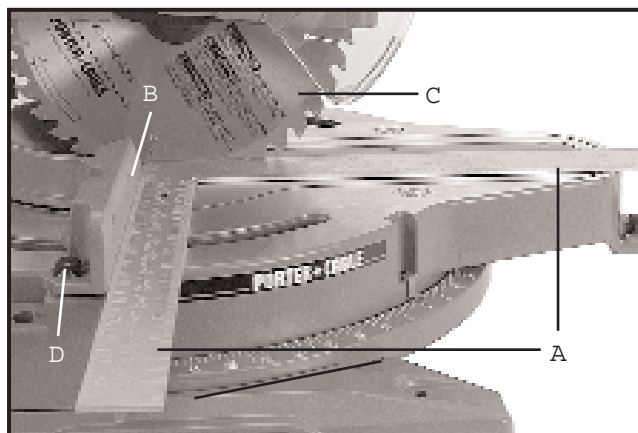

Fig. 19
3. Using a square (A) Fig. 19, place one end of the square against the front of the fence (B) and the other end against the blade (C), with the blade in the down position, as shown. Check to see if the fence is 90 degrees to the blade.
4. If an adjustment is necessary, the fence (B) Fig. 19, can be adjusted by loosening the two screws, shown at (D), that attach the fence to the base, using wrench supplied. Adjust the fence (B) as required and tighten the two screws (D).